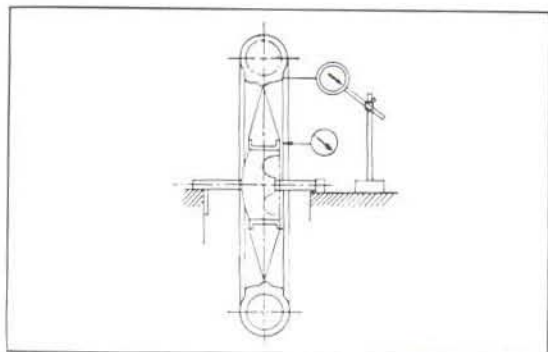

Fig. 4.4 Measuring rim runout
1. Measure rim runout. (Fig. 4.4)